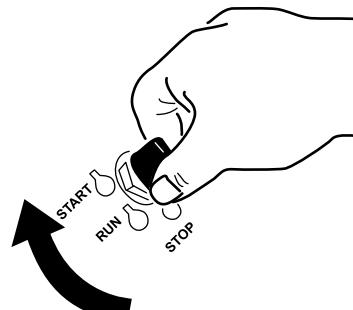

Figure 17
7. Turn the ignition key to the Start position (Figure 17). When the engines starts, release the key.